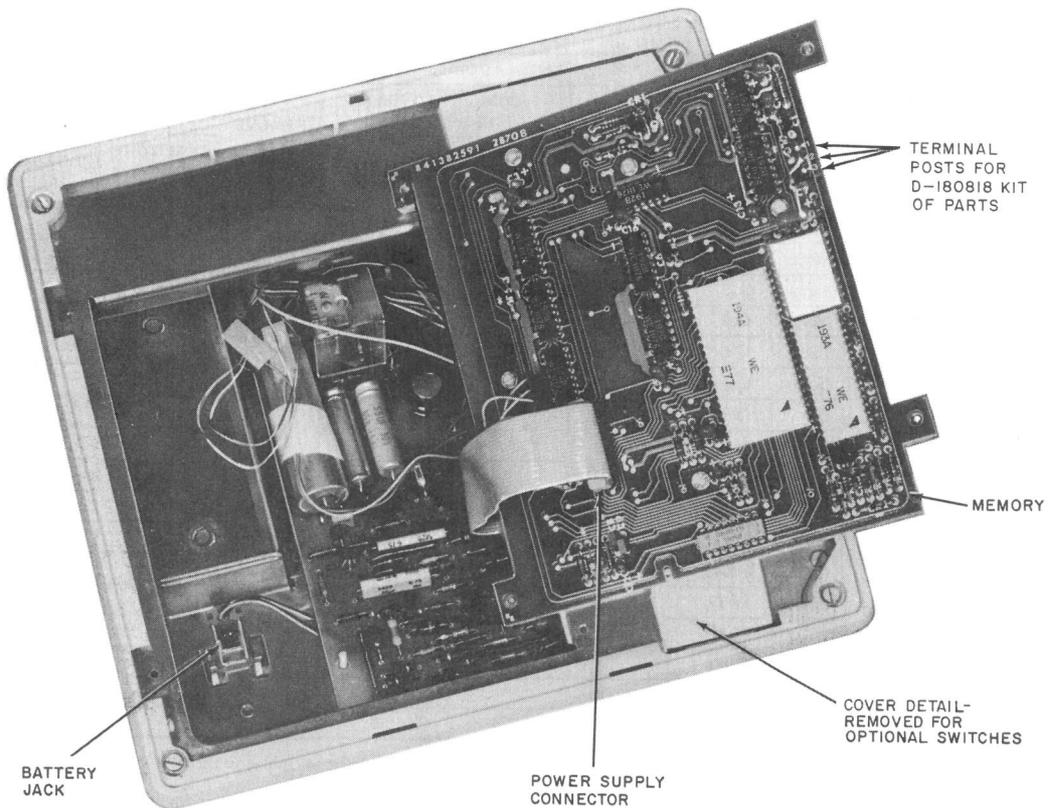

Fig. 4—2870A1 Dial, Internal View
- (5) Connect per Table B.
- (6) Break off the detail at the bottom of the cover (Fig. 4) and trim edge as required.
- (7) Verify correct operation of option.
- (8) Reassemble.
- (5) Rotate the left edge of the Memory upward as shown in Fig. 4.